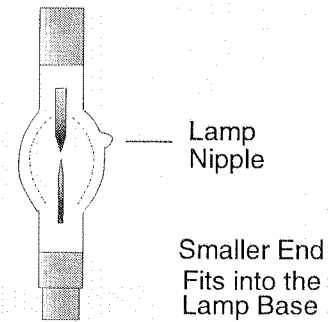

Figure 2.12. Xenon Lamp
8. Locate the *lamp nipple* on the xenon lamp. Refer to Figure 2.12.